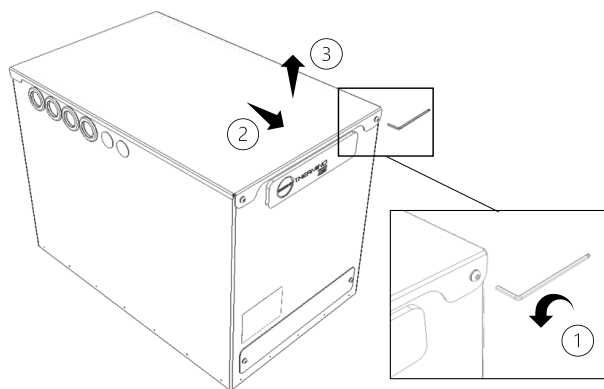

Figure 5 - Lid Removal of Thermino ePlus Heat Battery
- Remove lid. The lid is secured by 2 x M5 (8/32") button head cap screws at the front and two locating pins at the back (Figure 5):
- (1) Remove 2 x M5 (8/32") button head cap screws using 3mm hex head and set aside.
- (2) Slide the lid forward, (3) then lift the lid up and set aside.